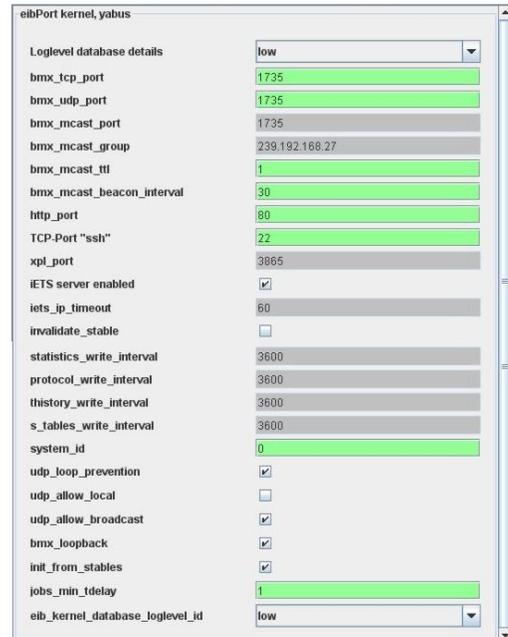

Figure 15: ConfigTool, Advanced EIB settings
2. Furthermore, network preferences should now be changed if desired (see Figure 15).